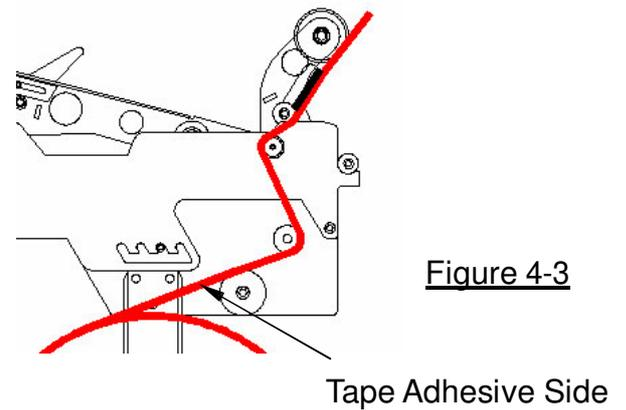

Figure 4-3
2. Adhere the guide plate to the tape, as shown in Figure 4-3.